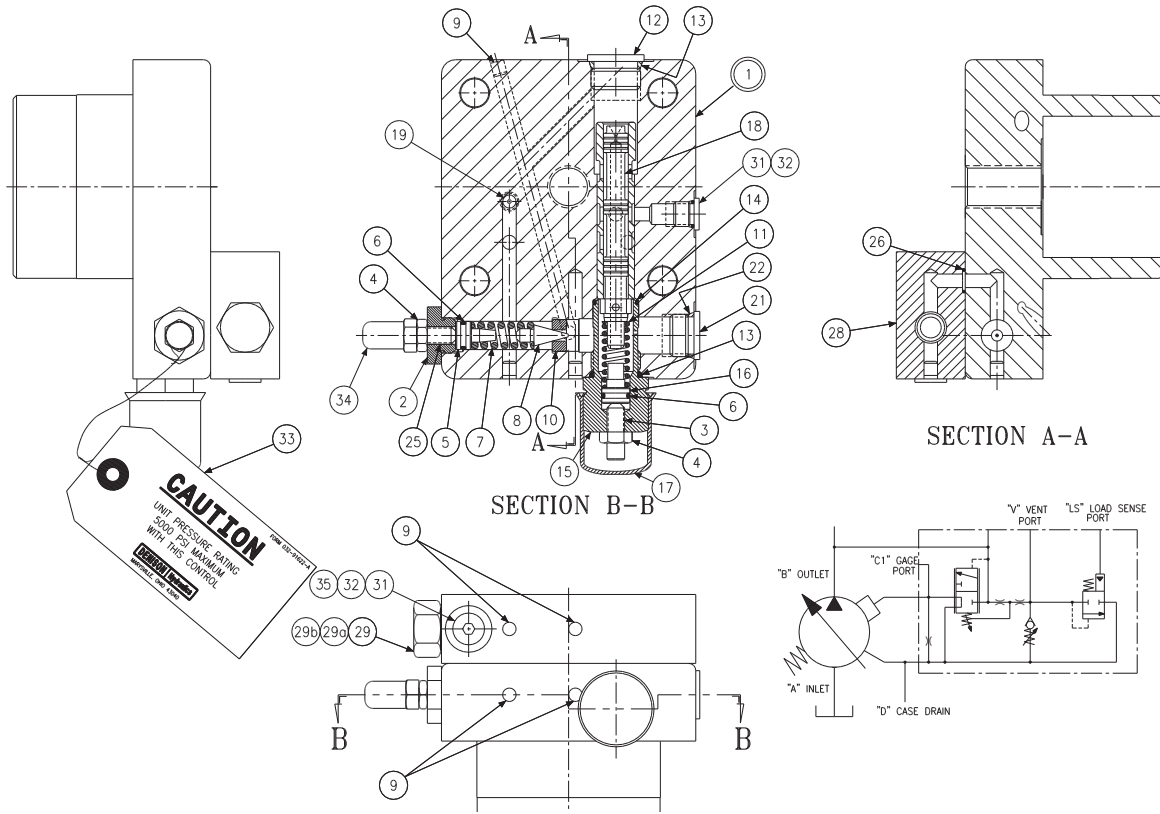

FIGURE 12
**PARTS LIST FOR FIG. 12
1. See Figure 12 Back off max. volume screw or handwheel to full displacement. Remove max. volume assembly.
3. Remove isolation valve (29) from block (28). Remove plug (15) and attached parts. Remove spring (11) and spool (18).
4. Remove adj. plug (2) and attached parts. Remove seal piston (5). Note: a 10-24 screw may be used to assist in pulling the piston. Remove spring (7) and cone (8).
5. Do not remove sleeve in body (1). Sleeve is pressed into cap and finished to size. If sleeve or cap is worn, replace the cap-sleeve assembly (1).
6. Examine seat (10) for wear. Do not remove unless damaged.
Ref. Figure 12